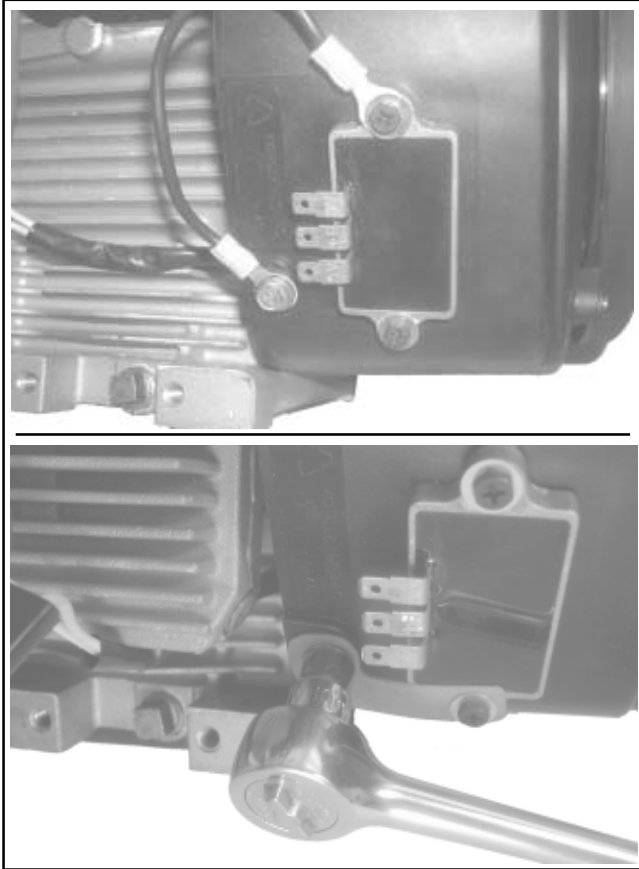

Figure 11-63. Ground Lead Details.
- If the rectifier-regulator was not removed, attach the ground wire or metal grounding bracket for the rectifier-regulator, using the silver colored screw and washer, to the lower blower housing hole. See Figure 11-63.